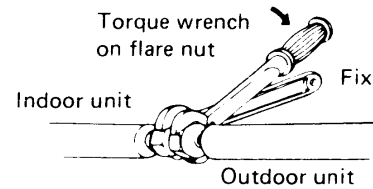

Fig. 7
2. Flare nut on large dia. pipe should be torqued to 510 ~ 550 lbs. in. Flare nut small dia. pipe should be torqued to 130 ~ 170 lbs. in Fig. 7